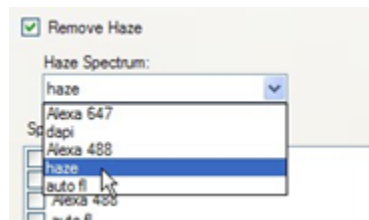

FIGURE 8.8. Removing the Haze spectrum.
2. On the Haze Spectrum drop-down list, select Haze. (See Figure 8.8.)